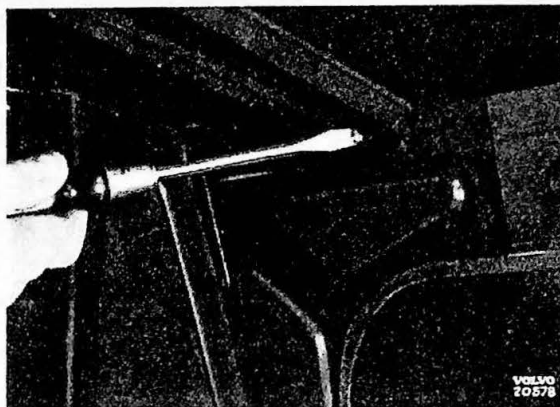

Fig. 36.
4. Remove the back of the rear seat. This is attached by two screws in the upper part. These screws are accessible from the rear compartment as shown in Fig. 36.